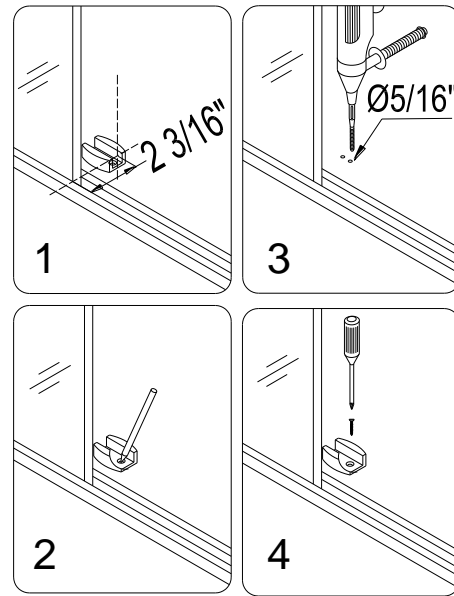

Fig. 10
7. Place the **Guide block (12)** on the floor and parallel it to the **Stationary glass panel** with its edge flush with the glass vertical edge. Take a measurement to ensure the distance from the outer surface of the glass to the center line of the guide block is **2 3 /16"**, hold it firmly and mark hole positions on the floor. Remove the block, drill holes in the floor, insert anchors in and then secure it onto the floor with the **Countersunk screw ST4.2x30**. See fig.10 for details.